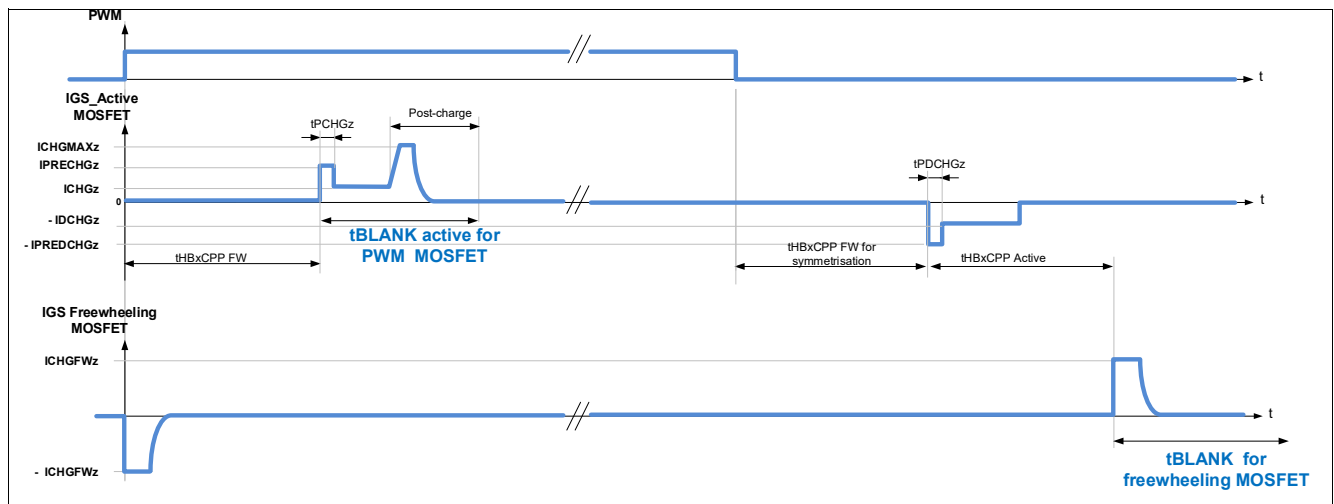
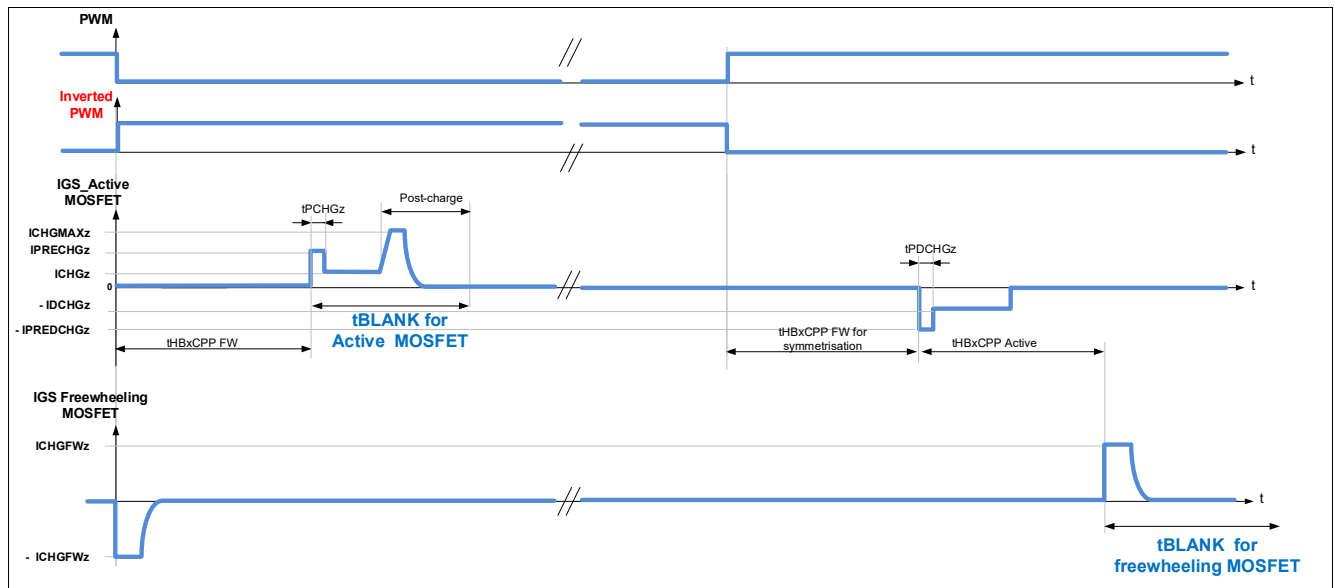

Figure 34 Blank time for half-bridges in PWM operation, detection of generator mode enabled (EN_GEN_CHECK = 1), motor operating as load
Figure 35 Blank time for half-bridges in PWM operation, detection of generator mode enabled (EN_GEN_CHECK = 1), motor operating as generator
- The blank time of the Active MOSFET starts at the expiration of the cross-current protection time of the FW MOSFET (tHBxCPP FW). Refer to Figure 34 and Figure 35.
- The blank time of the FW MOSFET starts after expiration of the cross-current protection time at turn-off of the Active MOSFET (tHBxCPP Active). Refer to Figure 34 and Figure 35.